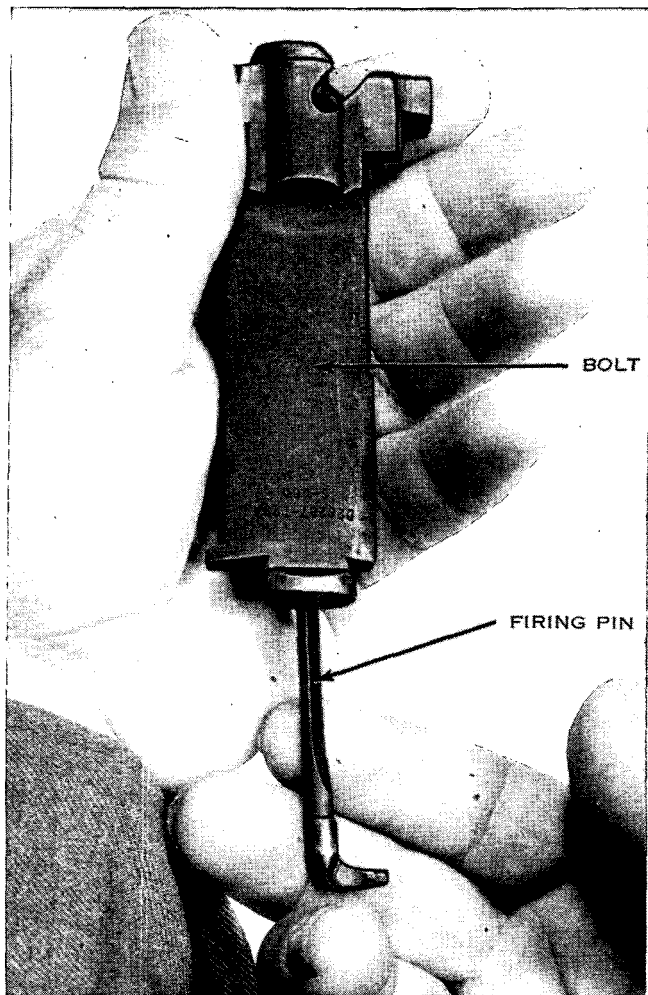

Figure 16. Removing the firing pin.
h. Remove the firing pin from the rear of the bolt (fig. 16).